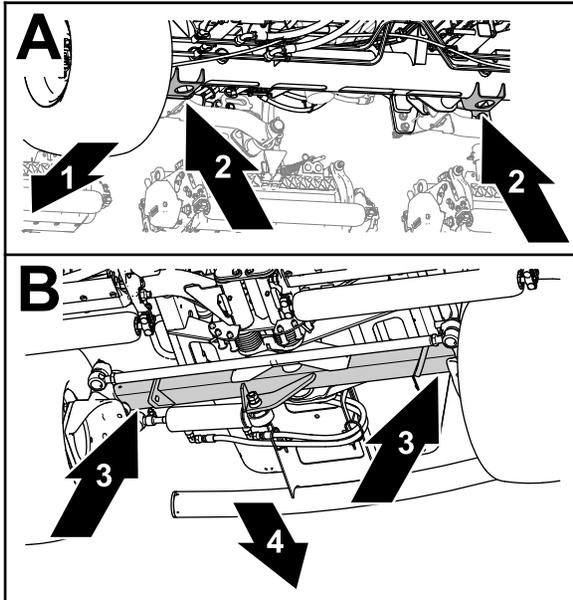

Figure 55
- Front—the jack brackets of the front-axle tube (Figure 55).